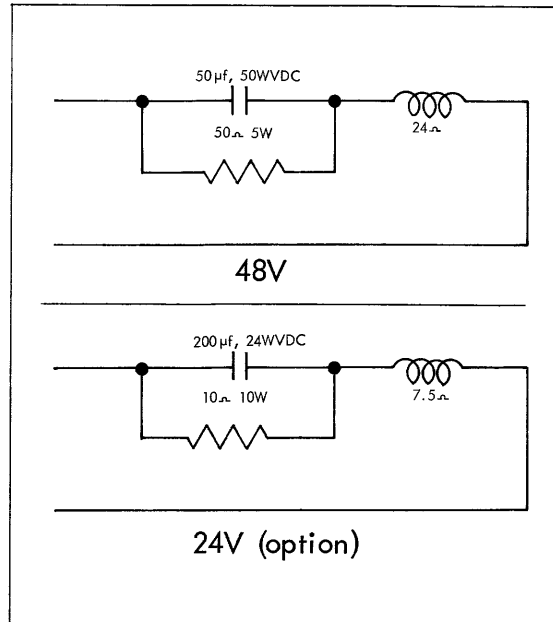

Figure 3
2. Must be able to drive nominal 25 ohm coils (10 ohm for 24 volt units) with series RC network as shown in Figure 3. Note: Figure 3 shows effective capacitance, not component values.